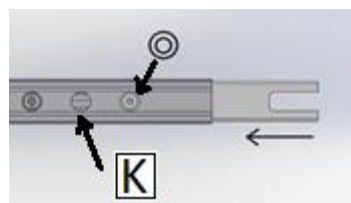

Fig.5
- 3) Connect the power cable to the luminaire, threading it through the K inlet as shown in the fig. 5
- 4) Connect the power supply to the luminaire (optional) threading it through K inlet as shown in the fig. 5
- 7) Slide the installation piece no. 2 so the thread is visible in the inlet (Fig. 5)